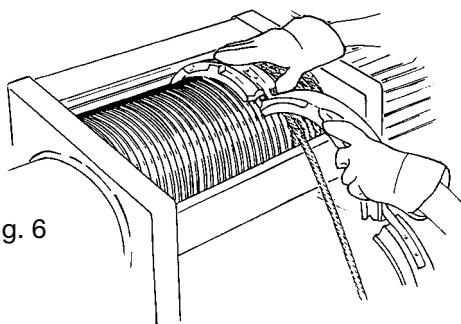

Fig. 6
**Rope guide ring assembly:** insert rope guide ring (Fig. 6) placing it in the drum grooves position.